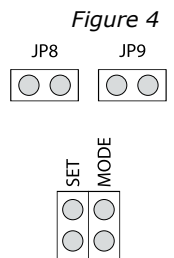

Figure 4
3. No jumpers have to be set on any pins. See Figure 4 for correct jumper position.